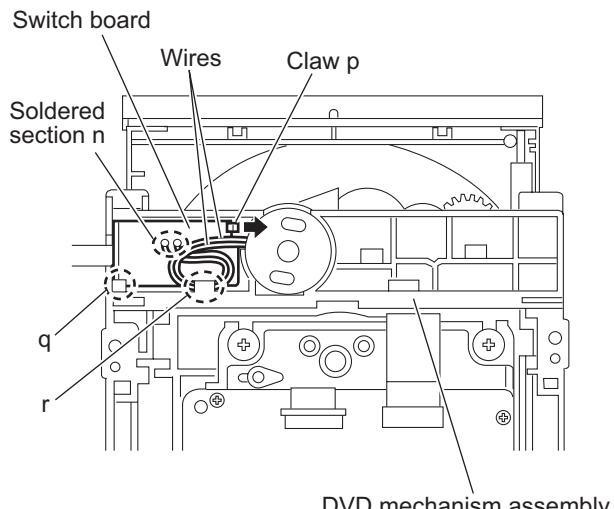

Fig.14
(See Fig.14.)
(See Figs.14 and 15)
- (1) From the bottom side of the DVD mechanism assembly, remove the wires from the soldered section **n** on the switch board. (See Fig.14.)
- Put the wires on the section **r** after attaching the motor to the DVD mechanism assembly. (See Fig.14.)